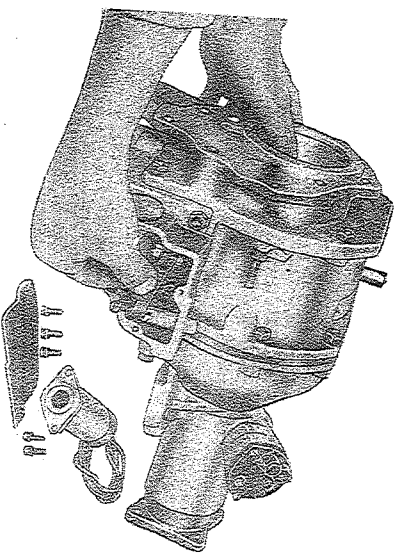

Fig. 12. Removing the solenoid lever
4. Slacken off clamping bolt in solenoid lever and remove lever with the solenoid plunger attached (Fig. 12).
NOTE: Figures 12 and 13 are shown for convenience with the overdrive removed from the car, but the procedure is exactly the same with the unit in the car.